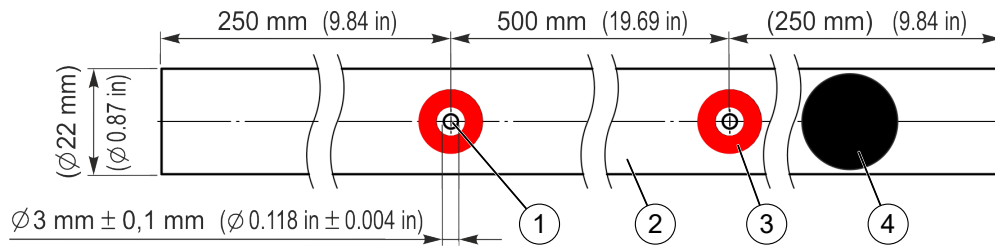

Fig. 34: Suction pipe
1. ▶ Drill suction bores (Fig. 34/1) into the suction pipes (Fig. 34/2). Carry out distances and bore diameters according to Fig. 34.
3. ▶ Degrease areas for red bore marks (Fig. 34/3) on suction pipes.
- Glue the black sticker³⁾ (Fig. 34/4) into place, making sure it is in the middle of the redundant bore.